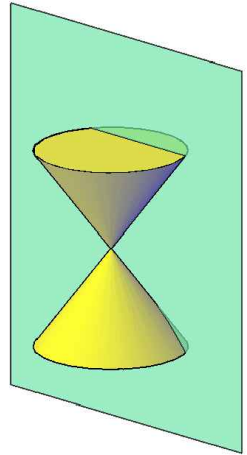
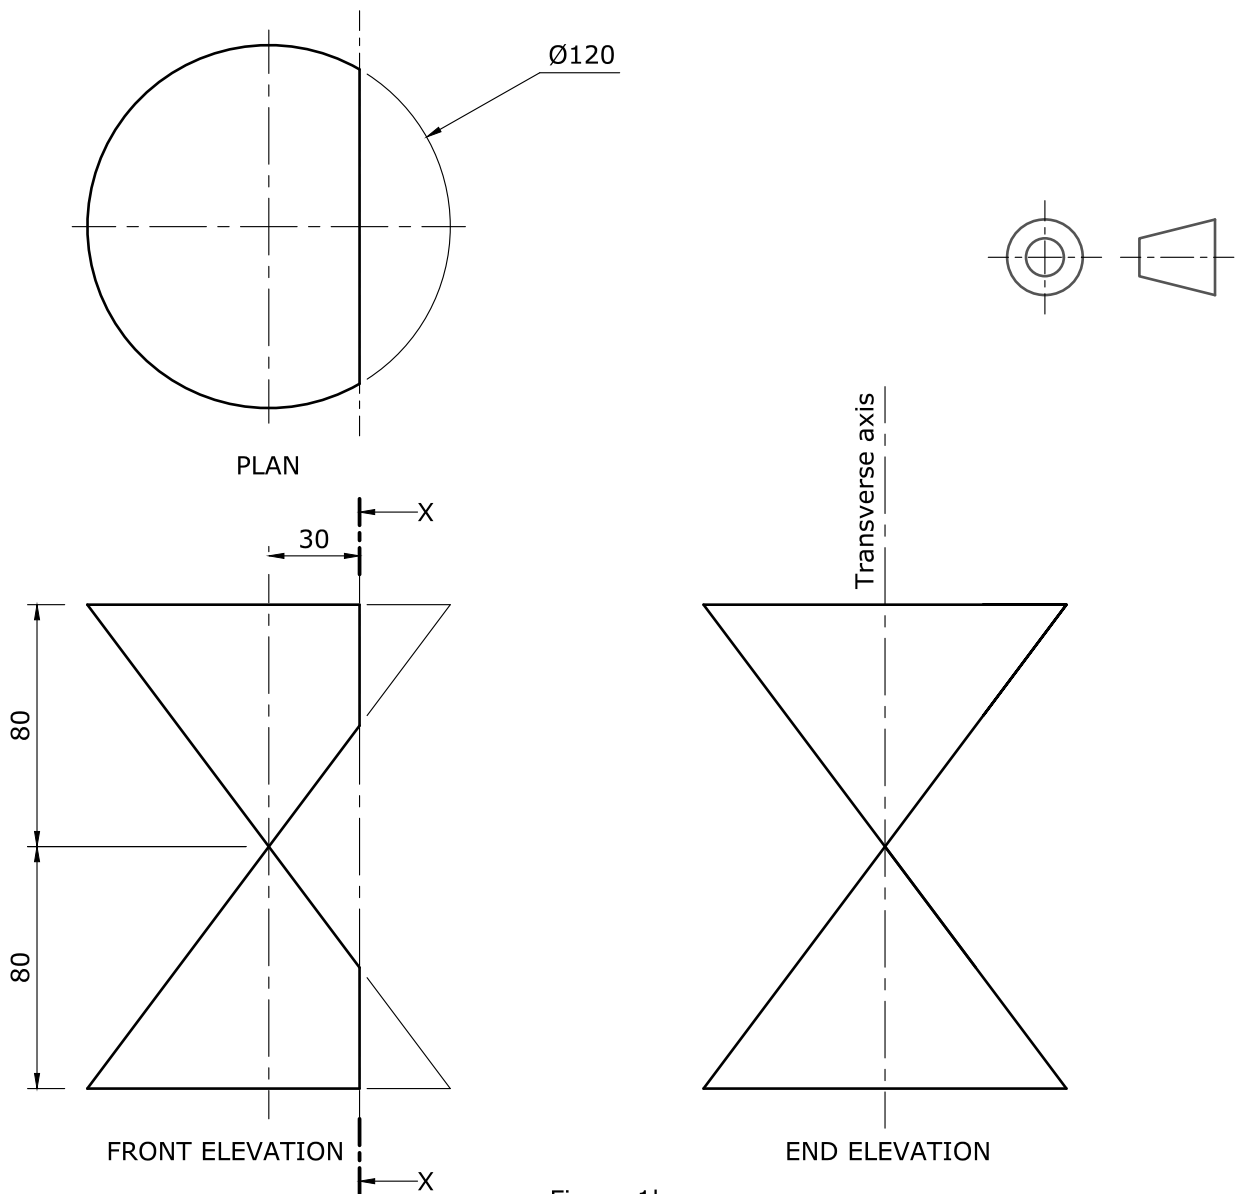

Figure 1a
Figure 1b
An illustration of a double right cone cut by a plane, which is parallel to its axis, is shown in Figure 1a. Dimensions and other details are given in Figure 1b. You are requested to:
- a. Copy the orthographic views given in Figure 1b; (2)
- b. draw, by construction, the focal spheres in the front elevation; (3)
- c. locate the directrices, the vertices and the foci of the conic sections; (2)
- d. project $D_1 D_2, V_1 V_2$ and $F_1 F_2$ from the front to the end elevation; (1)
- e. draw the conjugate axis and the auxiliary circle in the end elevation; (1)
- f. construct the two conic sections by using the intersecting arcs method; (5)
- g. state the name of the conic sections; (1)
- h. state the ratio of eccentricity of the conic sections; (1)
- i. draw an isometric view of the cut cones showing clearly the two sections; (4)